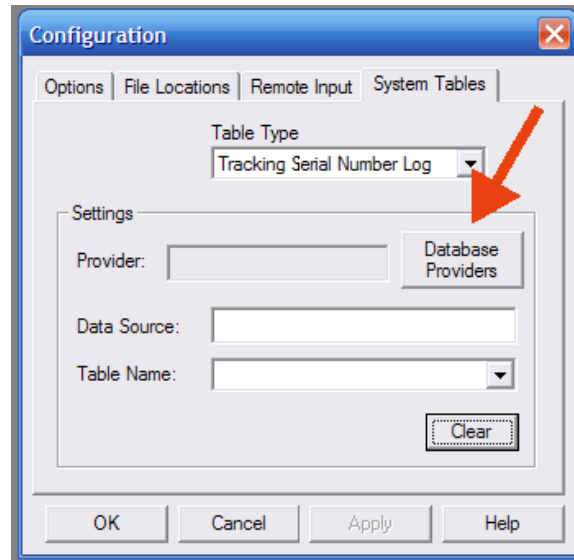

Figure 4-4
4.2.4. Click [**Database Providers**] to setup a connection to the Tracking Serial Number Database. (Figure 4-4)